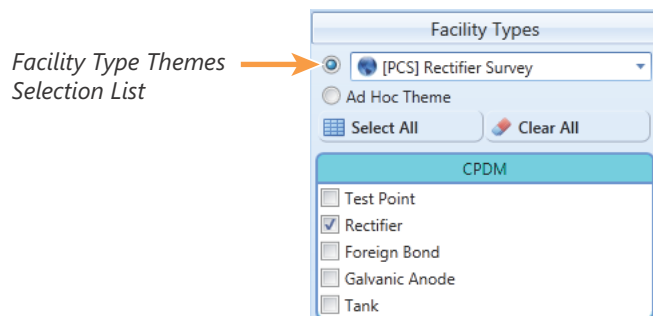
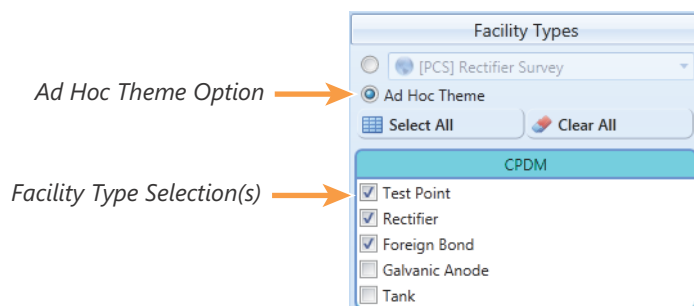

Figure 8-5. Facility Type Theme Option
Figure 8-6. Ad Hoc Theme Option
- a To select a facility type theme, click the themes option button and then click the down arrow and select a theme in list, such as *[PCS] Rectifier Survey* (Figure 8-5).
- b To select multiple facility types, click the **Ad Hoc Theme** option and then click the check box for one or more facility types, such as *Test Point*, *Rectifier*, and *Foreign Bond* (Figure 8-6).
- 3 Choose the facility type(s) you want to work with by selecting a *facility type theme* or setting up an *Ad Hoc Theme* in *Facility Types*. See Figure 8-5 or Figure 8-6 on page 358.